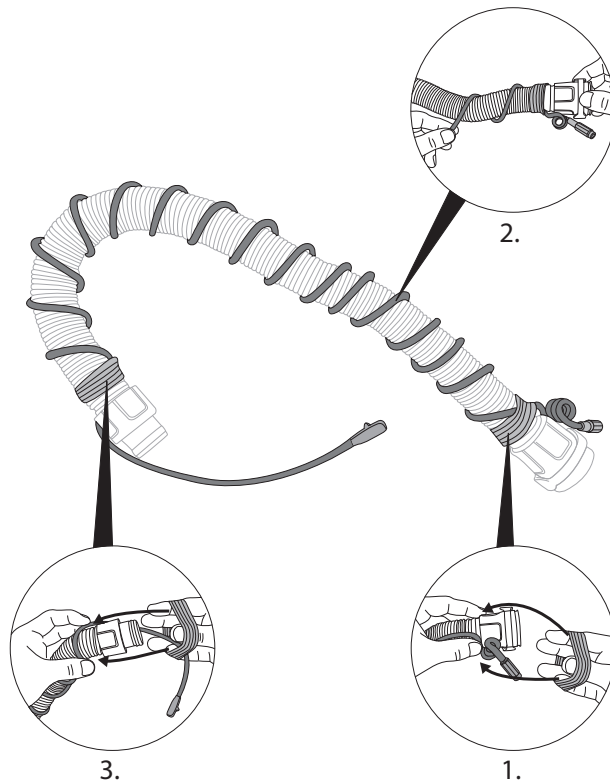

Fig. 31e
- vi. Attach the long cable (battery to welding helmet) by wrapping it around the breathing tube from the PAPR unit or SA device. The long cable may be held in place with the elastic bands or may also be routed inside the breathing tube cover, SG-15 (Fig. 31e).